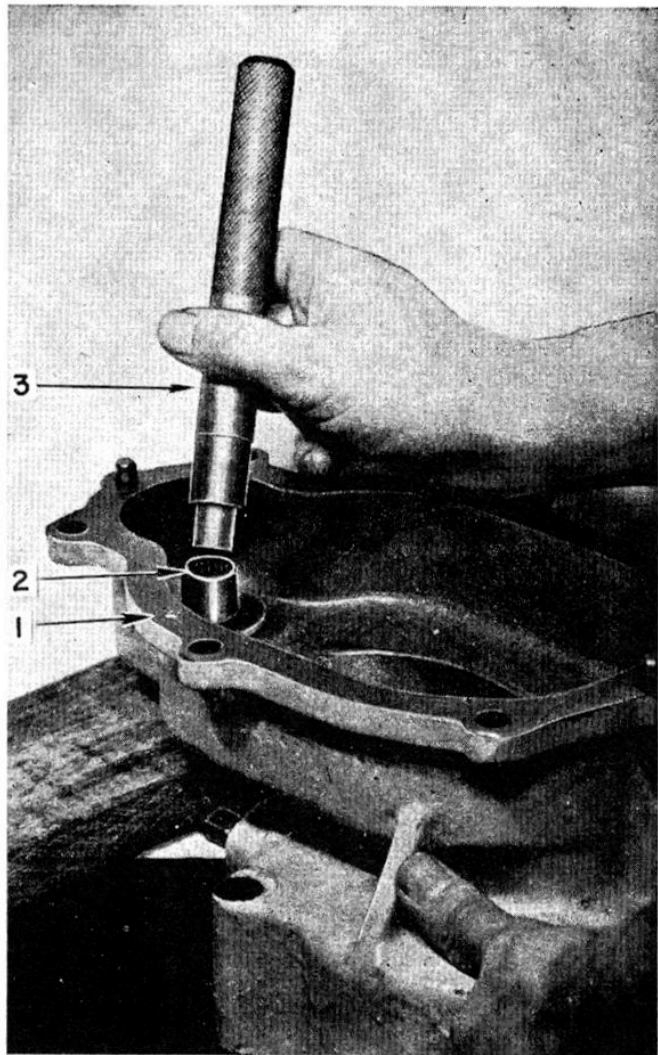

FIG. 18.—INSTALLING MAGNETO DRIVESHAFT BEARING IN CRANK CASE
- a. Install magneto drive-shaft bearing in rear crankshaft housing, using driver GP-7. (See figure 18.)